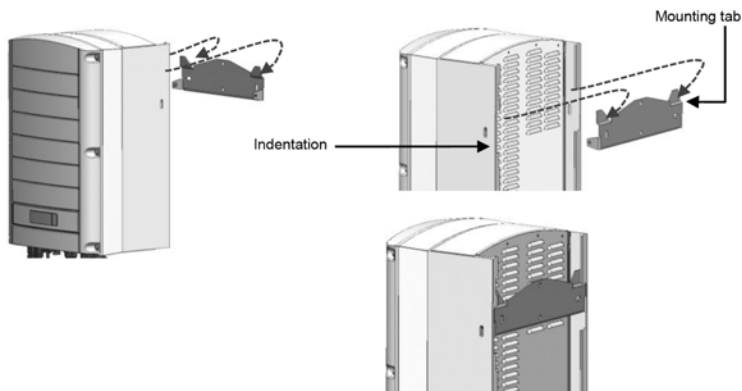

Figure 7: Hanging the inverter on the bracket
- Ensure that the flat side of the bracket is at the bottom, as in *Figure 7*.
4. Hang the inverter on the bracket (see *Figure 7*): Lift the inverter from the sides, or hold it at the top and bottom of the inverter to lift the unit into place. Do not lift holding the DC Safety Unit as it may be damaged.